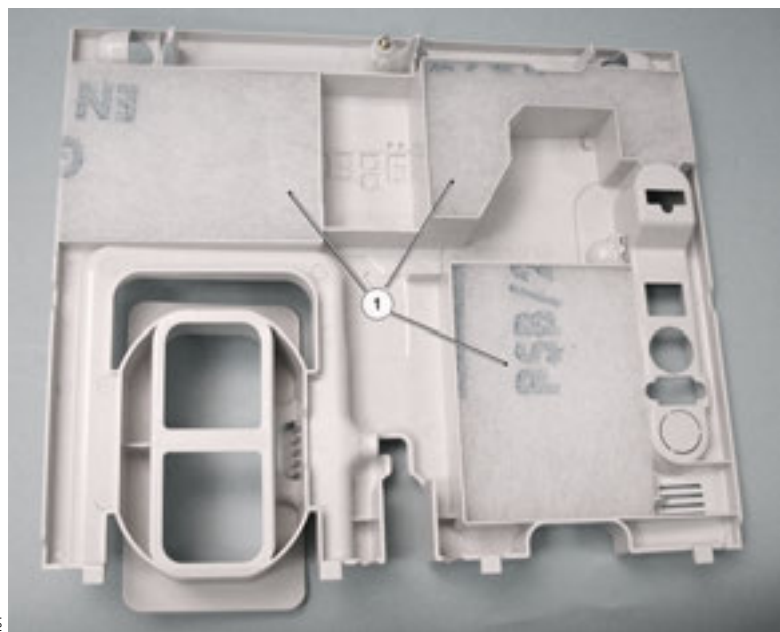

Fig. 84 Filter cover: Dust filters (3x)
- 1 Withdraw the dust filters (Fig. 84/1) out of the filter cover and dispose of them in the domestic waste bin.
- 1 Insert the new dust filters (Fig. 84/1) in the corresponding recesses in the filter cover.